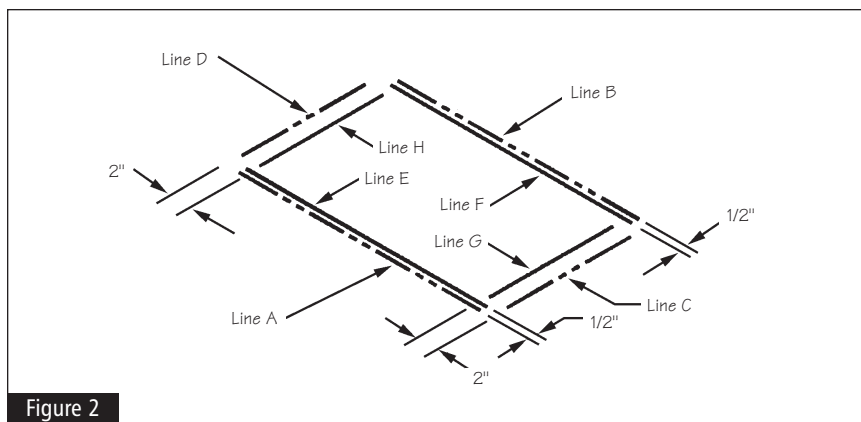

Figure 2
- 2 Remove the peninsula base cabinet. Using lines A and B drawn in Step 1, mark two new lines 1/2" inside of these lines. Now, using lines C and D drawn in Step 1, mark two new lines approximately 2" inside of these lines. See Figure 2.